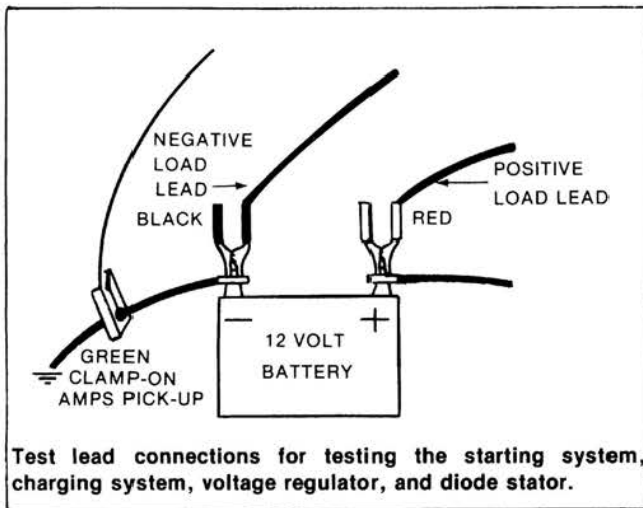

Figure 4
2. Connect the Green clamp-on AMPS PICK-UP around the **vehicle** ground battery cables. (Disregard polarity.) If more than one cable is connected to battery post, place clamp around all cables. See Figure 4.
- A. Leave the Green clamp-on AMPS PICKUP around vehicle ground cable or cables. See Figure 4.
- A. Set the TEST SELECTOR to the #3 REGULATOR position (hookup as in Figure 4).
- A. Set engine to test speed; and with TEST SELECTOR set in the #3 REGULATOR position, adjust the LOAD INCREASE control if necessary to obtain a charge rate of at least 15 amperes (hookup as in Figure 4).
- A. With engine stopped and TEST SELECTOR in #2 position (Figure 4), turn on all vehicle accessories, ignition switch, headlights at high beam, air conditioning, windshield wipers, rear window defroster if so equipped, etc.